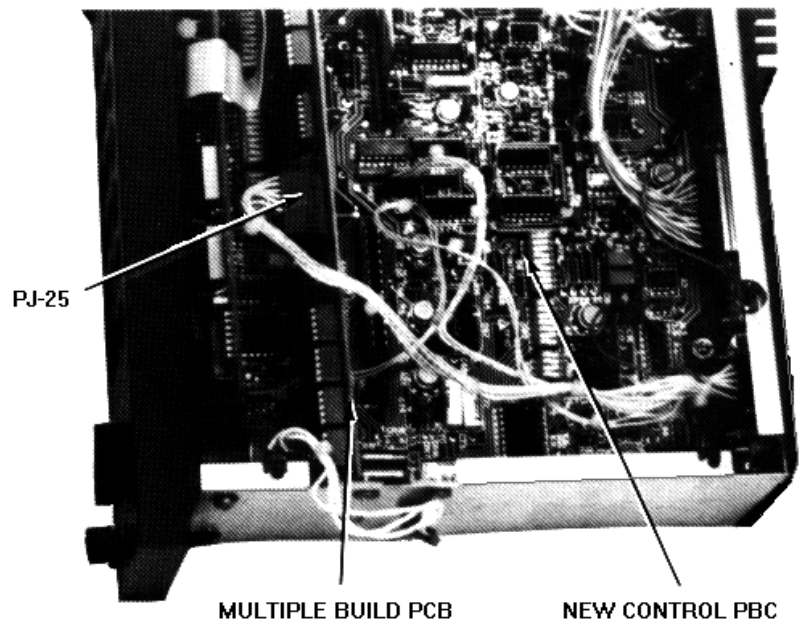

Figure 3
STEP 5 - Install the multiple build PCB (part number 112064 00A) into P-7 of the new Control PCB, and connect the P25 of the analog harness to J-1 of the multiple build PCB. See Figure 3.